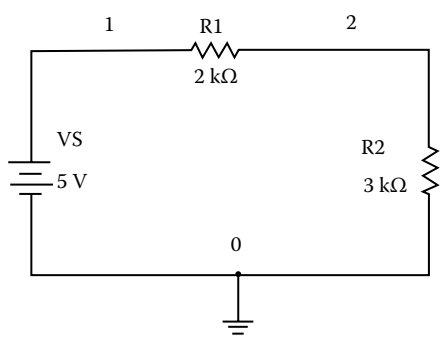

FIGURE P2.1
Problem 2.1 Build the circuit shown in Figure P2.1. (1) Use the Analog Discovery voltmeter to measure the voltages across resistors, R1 and R2. (2) Use the voltage divider rule to calculate the voltages across R1 and R2. (3) Compare the results obtained in parts (1) and (2).